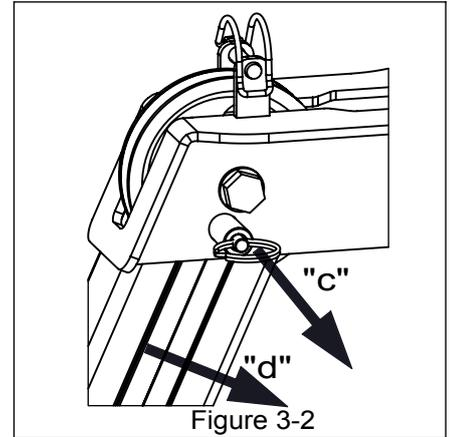

Figure 3-2
- Figure 3-2 - LOCKED POSITION / UNLOCKING - Legs are fully extended - automatic locking finger closure. Angular leg moves is impossible. To unlock the leg pull back the locking finger (step "c") and move the leg to the center of tripod (step "d").